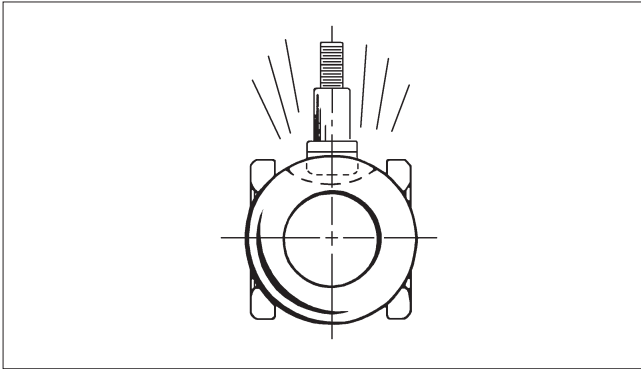

Figure 3.
1. Slide one valve seat (5) sidewise into the body cavity (1) to just below the stem hole and tilt it into place so that the proper face will come in contact with the ball (3) (see **Figure 3**). Do not scratch or cut the seat face.
9. Insert the second seat (5) so that the sealing surface of the seat is towards the ball (See **Figure 3**).
10. Insert the body seal (6) and gently press it into the groove in the body.